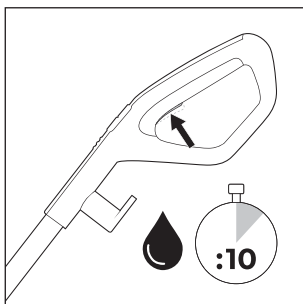
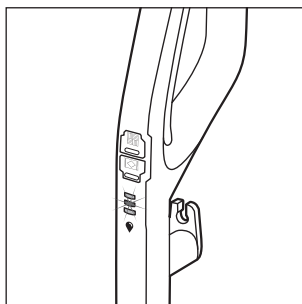

Fig. 14
Fig. 15
- ◆ Before each use, press and hold the cleaning solution switch  **15** for about 10 seconds to add cleaning solution to the rotary brush **6** so that it is ready for use (see fig. 14). The cleaning solution display  **12** flashes alternately blue when the cleaning solution switch  **15** is held down (see fig. 15).